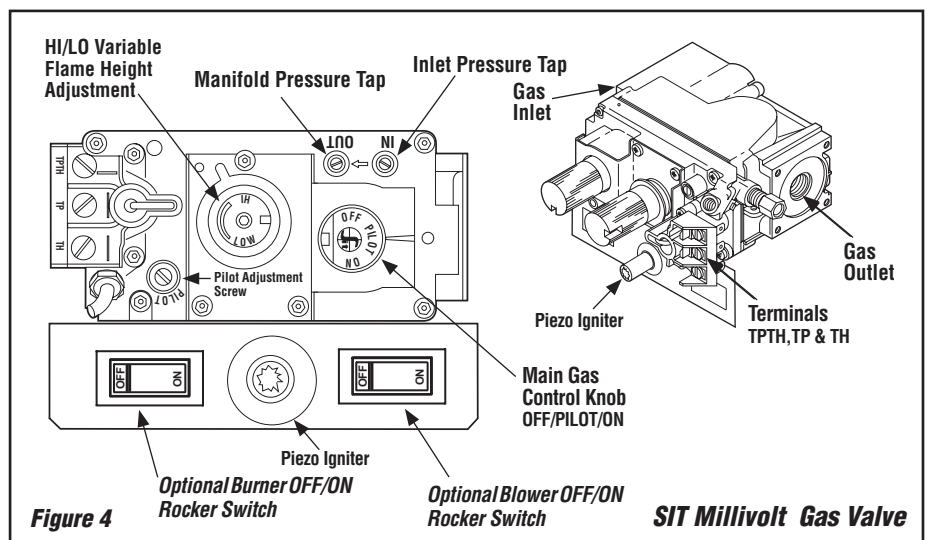

Figure 4
Millivolt Appliances - Appliances with Millivolt systems will be fitted with the gas control valve shown in **Figures 4 or 5**.
1. All Millivolt appliances are equipped with a variable gas control valve. Flame height for these models may be adjusted through a range between fixed low and high settings while the appliance is in operation. Adjust the flame height as desired after lighting the appliance by rotating the variable adjustment control knob (HI/LO) located on the front of the valve (refer to **Figures 4 & 5**).